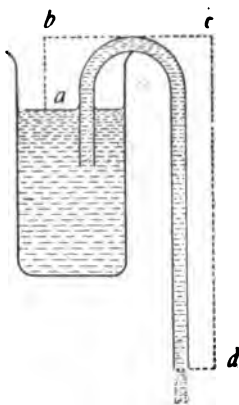

FIG. 45.—Cross-section of a siphon.
64. The Siphon.—The siphon is a tube used to convey a liquid from one level over an elevation to a lower level by atmospheric pressure. It is used to remove liquids from tanks or vessels that have no opening at the bottom. (See Fig. 45.) The action of the siphon is explained as follows: Consider the siphon to be full of water. The water tends to fall from both arms and would do so in a vacuum. The atmospheric pressure, however, acts against the water at each end of the tube and tends to hold it upward. Against this equal upward pressure of the air in both tubes is the weight of the water. The weight of the column of water ab is evidently less than that of cd . The net upward pressure at a is $15 \text{ lbs.} - ab$, at d it is $15 \text{ lbs.} - cd$. Therefore $15 \text{ lbs.} - ab > 15 \text{ lbs.} - cd$, or the real upward pressure at a is greater than at d by the weight of the water column ad , hence the water will continue to flow until both arms of the siphon are of the same length. The greater the difference of these lengths the faster the flow will be.